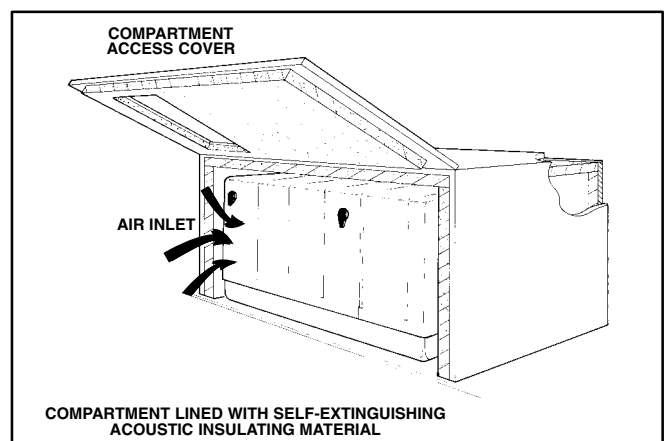

FIGURE 5. COMPARTMENT WITH ACOUSTIC INSULATION
- B. There is clearance all around. At least 1/4 inch (6 mm) is required around the sides of the genset and 1 inch (25.4 mm) at the top. The clearances apply to acoustic insulation as well (Figure 5).
11. Acoustic insulation and adhesive (Figure 5) should be Classified as “Self-Extinguishing” at not less than 200°F (90°C). Do not line the bottom of the compartment with insulation—insulation absorbs spilled fuel and oil.